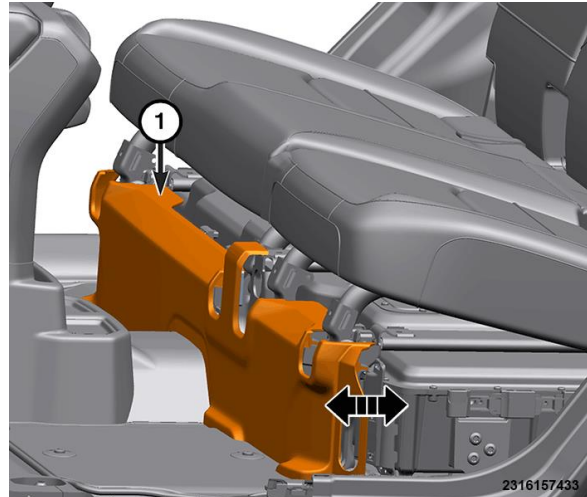

Figure 14 – HV Battery Front Trim
38. Using a trim stick or equivalent, release the retainers from the front high voltage battery closeout and remove from vehicle (Figure 14).